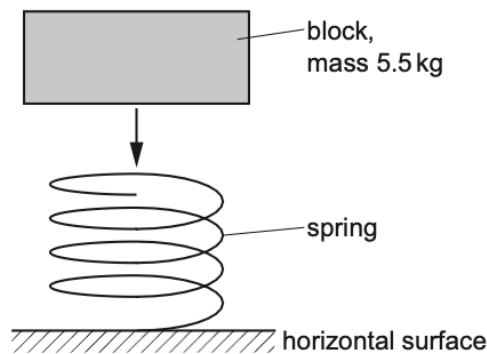

Fig. 3.1
- 4 The lower end of a vertical spring is fixed to a horizontal surface, as shown in Fig. 3.1.